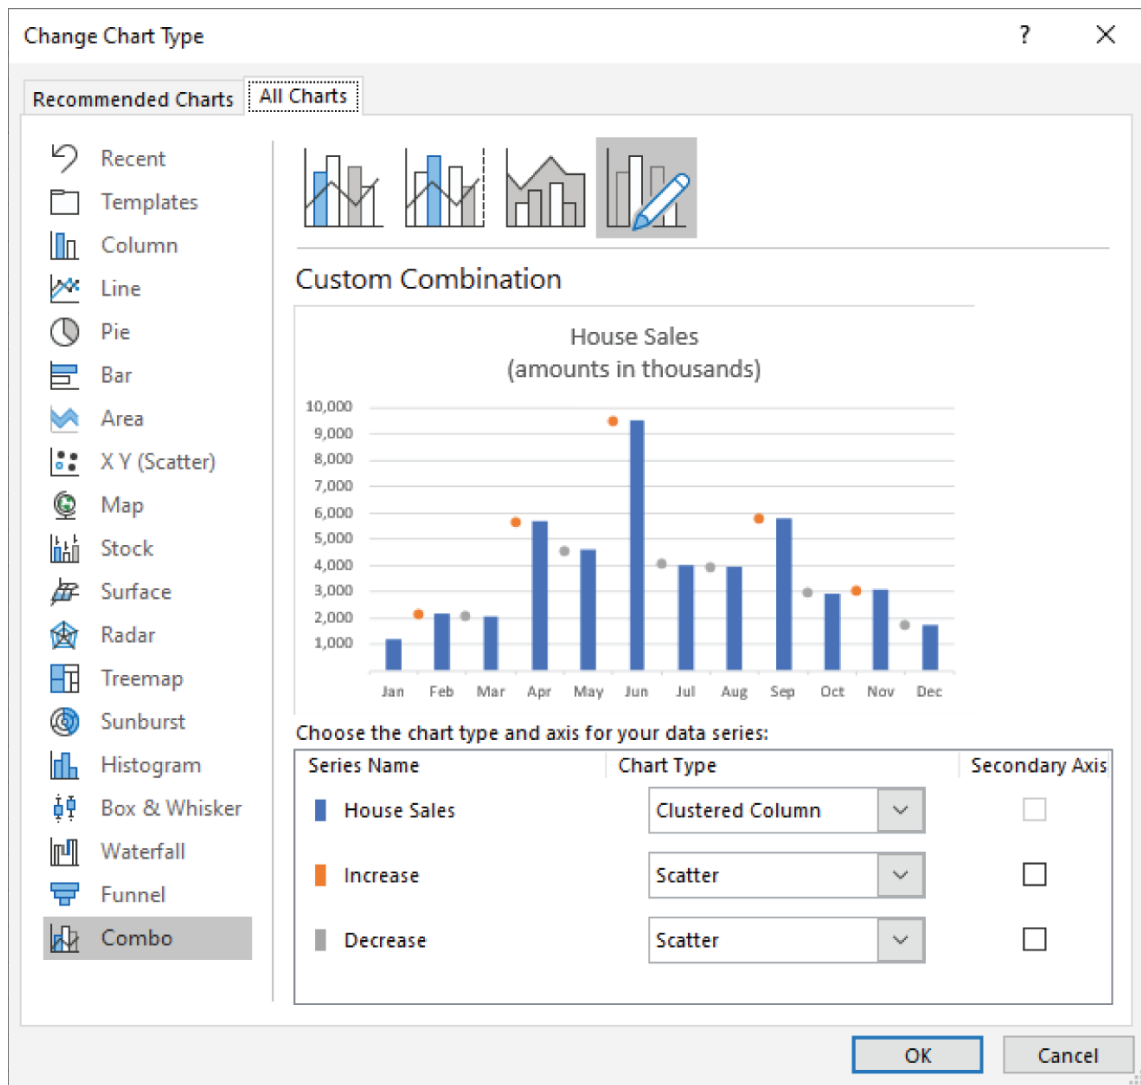

Figure 9.19: The Change Chart Type dialog
3. By default, the new series chart type will match the existing series, a column chart. Right-click on any series and choose Change Series Chart Type to show the Change Chart Type dialog. Change the Increase and Decrease series to Scatter and leave them on the primary axis, as shown in Figure 9.19.